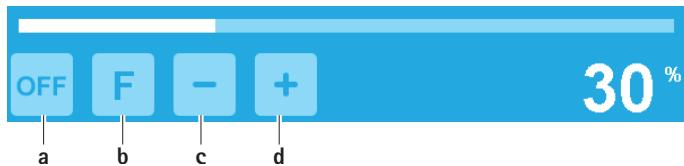

Fig. 7 Activating the coolant and irrigation pump/"Flush" function
- Activate the coolant and irrigation pump: Activate the button for switching on the irrigation pump **a**, see Fig. 7.
- Deactivate the coolant and irrigation pump: Activate the button for switching off the irrigation pump **a**, see Fig. 7.